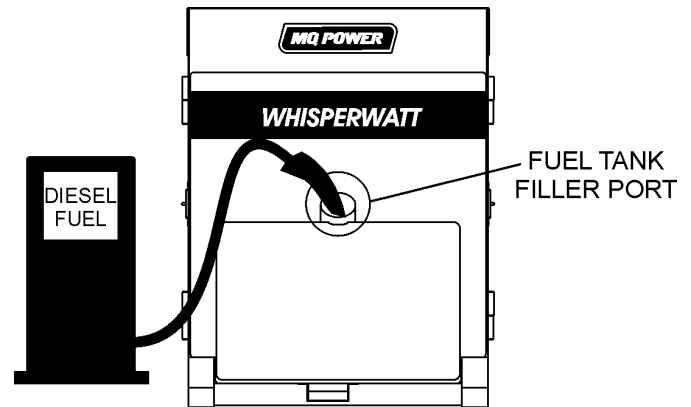

Figure 31. Fueling the Generator
4. Remove fuel cap (internal fuel tank) and fill tank as shown in (Figure 31).